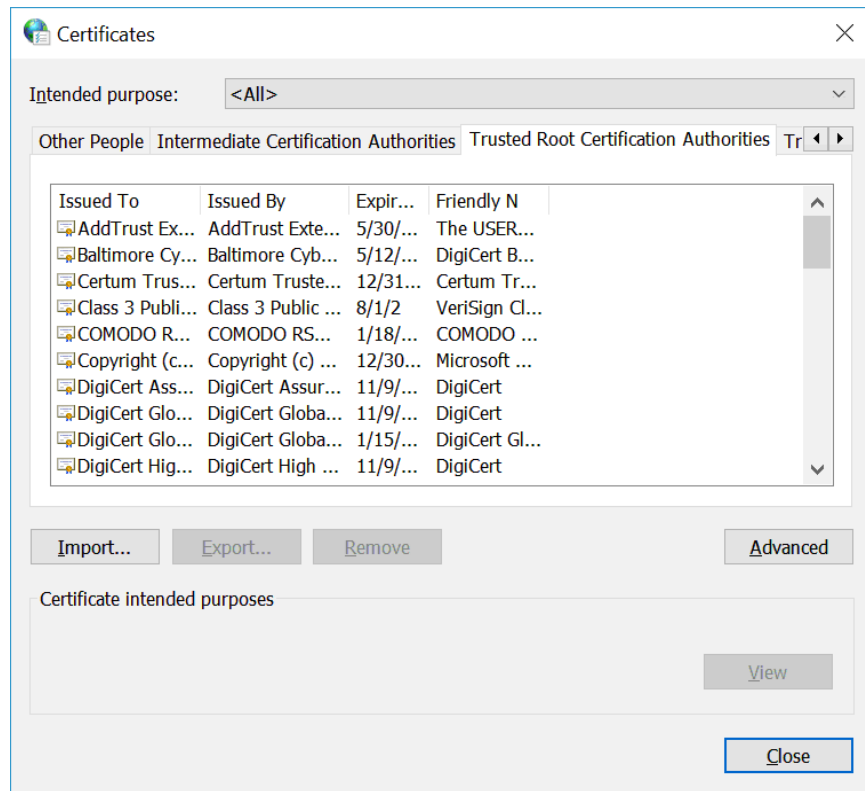

Figure 331: Certificates Screen
3. Click on the Certificates button. The Certificates screen displays. Click on the Trusted Root Certification Authorities tab, as shown in Figure 331.